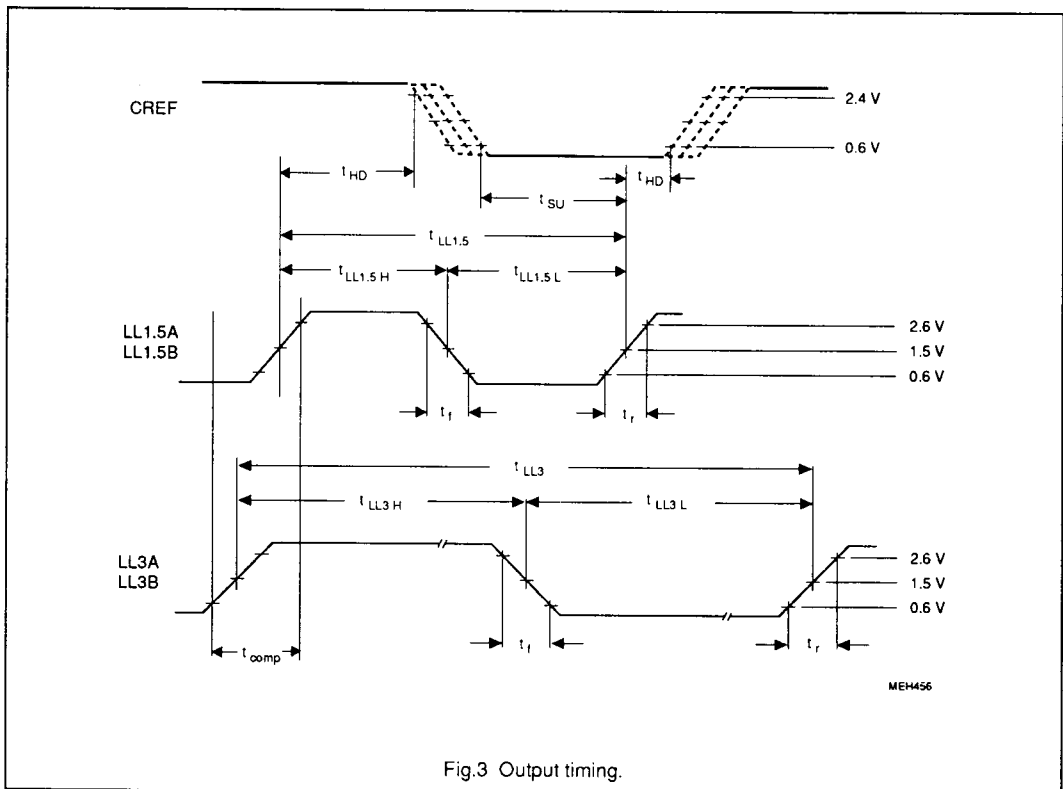

Fig.3 Output timing.
- $f_{LFCO} = 7.0$ MHz and output load 40 pF (Fig.3). V_{SSA} and V_{SSD} short connected together.
- t_{comp} is the rise time from LOW of all clocks to HIGH of all clocks (Fig.3) including rise time, skew and jitter components. Measurements taken between 0.6 V and 2.6 V. Skew between two LLx clocks will not deviate more than ± 2 ns if output loads are matched within 20 %.